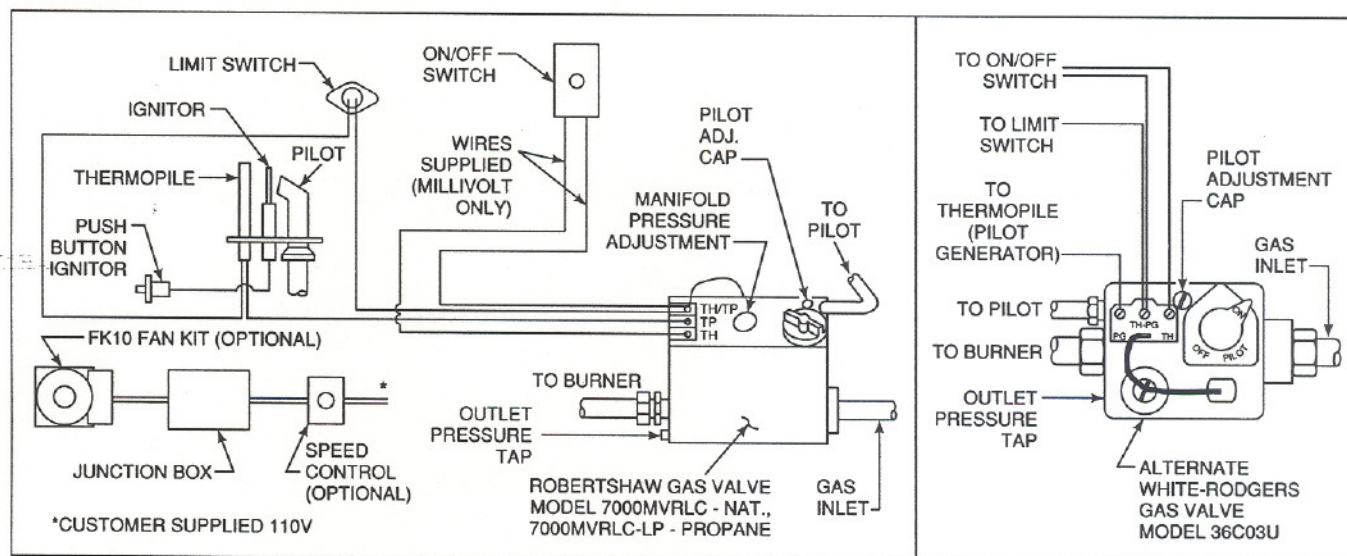

Figure 5B
2. **Appliance Requirements.** This appliance comes prewired for a remote wall switch. Connect the two wires penetrating the outside of the appliance to each side of an ON/OFF switch. A wiring diagram is shown in Figure 5B.
1. Remove the pilot adjustment cap. See Figure 5B, page 5.